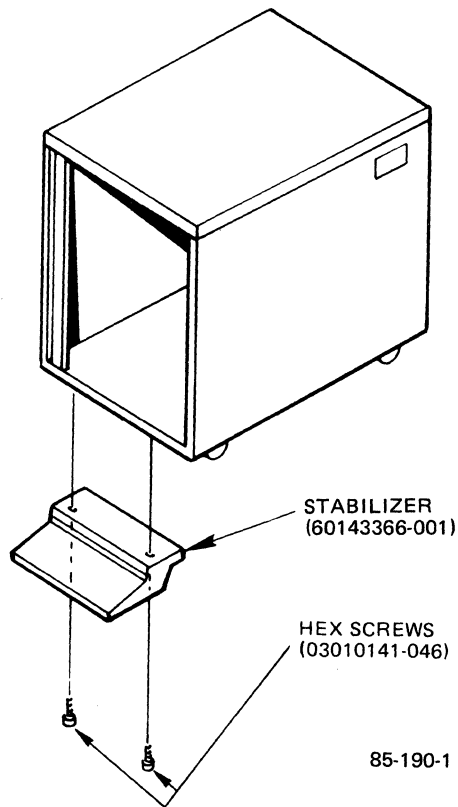

Figure 2-8. Anti-Tip Outrigger
3. Locate the anti-tip outrigger kit (60134360-004). Install the two hex screw caps to the anti-tip outrigger; then install the anti-tip outrigger to the cabinet as shown in Figure 2-8. Tighten the screws into the cabinet so that the front of the cabinet rests on the anti-tip outrigger and not on the casters.